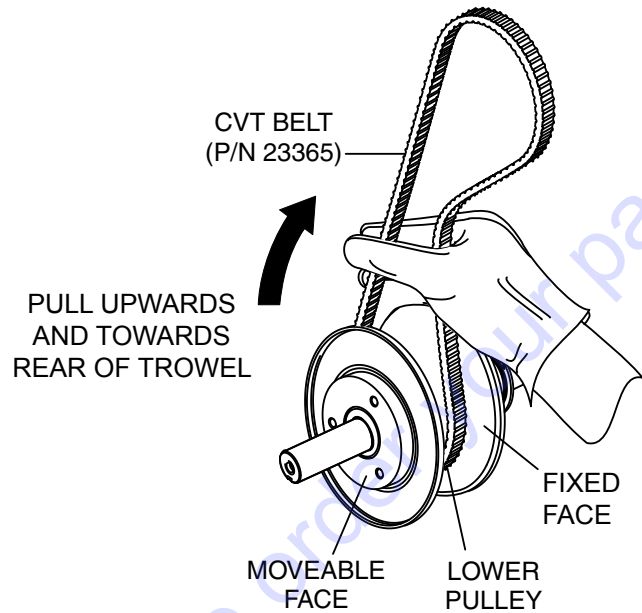

**Figure 28. Remove Left-Side CV Axle**
2. Disconnect the left-side CV Axle from the left-side gearbox and the lower drive pulley coupler. See Figure 28.
3. Reconnect left-side CV Axle Assembly to the left side gearbox and lower drive pulley coupler. See Figure 28.